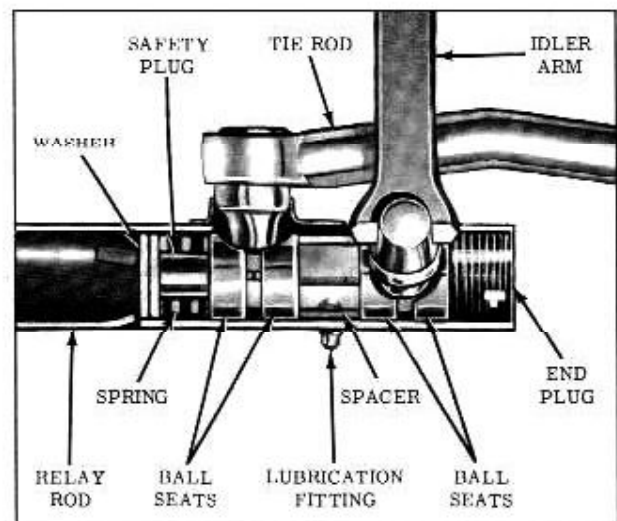

Fig. 4-45 Relay Rod End
4. Remove the pitman arm and idler arm ball seats, the ball seat spacer and the tie rod outer ball seats. (Fig. 4-45)